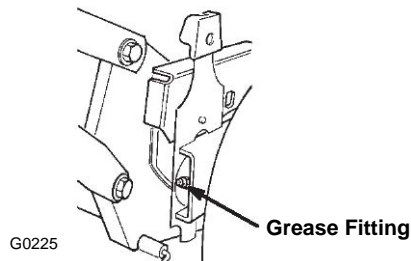

Figure 25
2. Wipe the grease fittings with a clean rag (Fig. 25).
3. Install a grease gun onto the fitting and gently apply 2 or 3 pumps of #2 multi-purpose lithium base grease (Fig. 25).